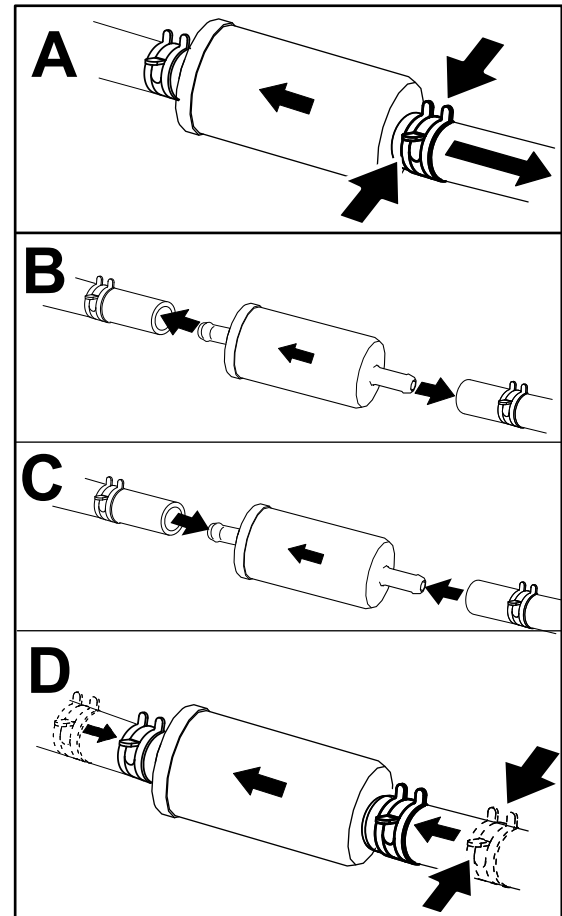

Figure 34
5. Place a clean container under the fuel filter and replace the fuel filter as shown in Figure 34.